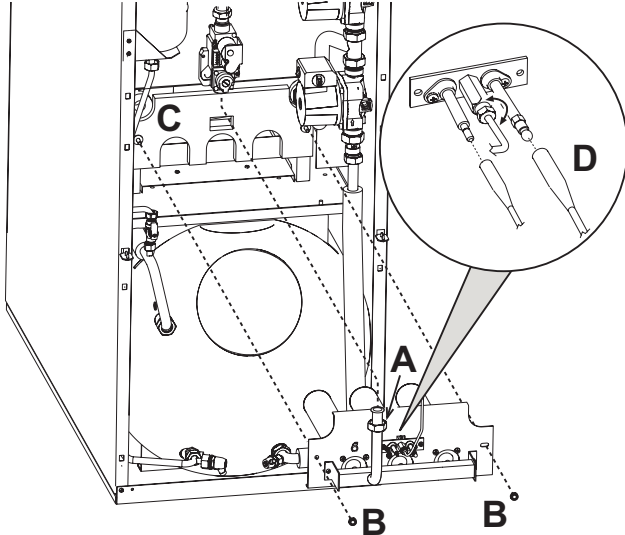

fig. 22 - Removing the burners
- Undo the two nuts fixing the combustion chamber door to the cast iron elements of the boiler (fig. 22)